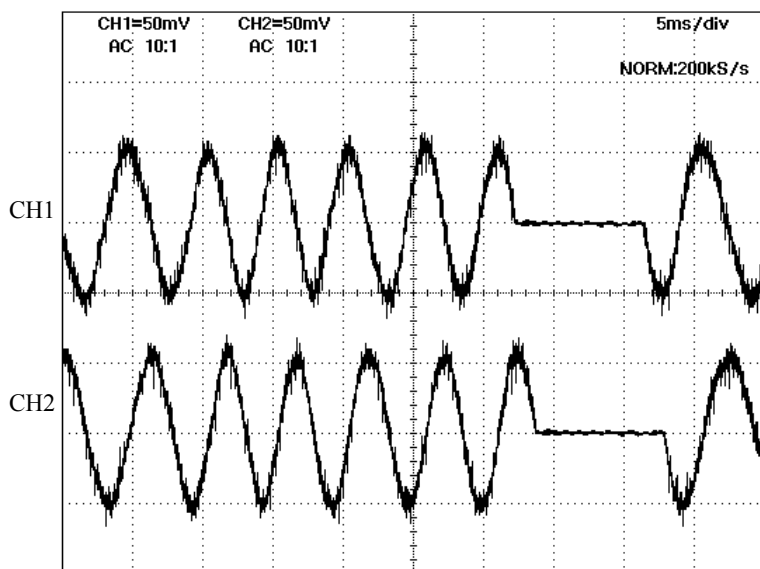

Fig. 4
- As shown in Fig. 4, if the amplitude partially drops between the infinity and the close-distance, the magnetic data of the tape may be damaged. So replace the main fixed tube unit and make a readjustment. Replacing only the magnetic surface is impossible.